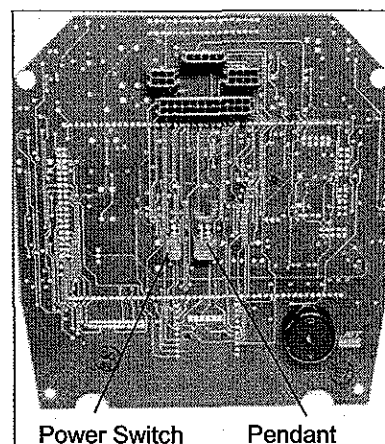

Figure 5-6b: Controller PCB (Back)
9. Carefully lift the Controller PCB a few inches and disconnect the 2-pin connector (Pendant Port Cable Assembly) and the 4-pin connector (Power Switch Assembly) from the back of the PCB (see Figure 5-6b).
1. Hold the Controller PCB a few inches from the Injector Controller's Rear Enclosure. Connect the 2-pin connector (Pendant Port Cable Assembly) and the 4-pin connector (Power Switch Assembly) to the back of the PCB (see Figure 5-6b).
6. Carefully lift the Controller PCB a few inches and disconnect the 2-pin connector (Pendant Port Cable Assembly) and the 4-pin connector (Power Switch Assembly) from the back of the PCB (see Figure 5-6b).
3. Hold the Controller PCB a few inches from the Injector Controller's Rear Enclosure. Connect the 2-pin connector (Pendant Port Cable Assembly) and the 4-pin connector (Power Switch Assembly) to the back of the PCB (see Figure 5-6b).